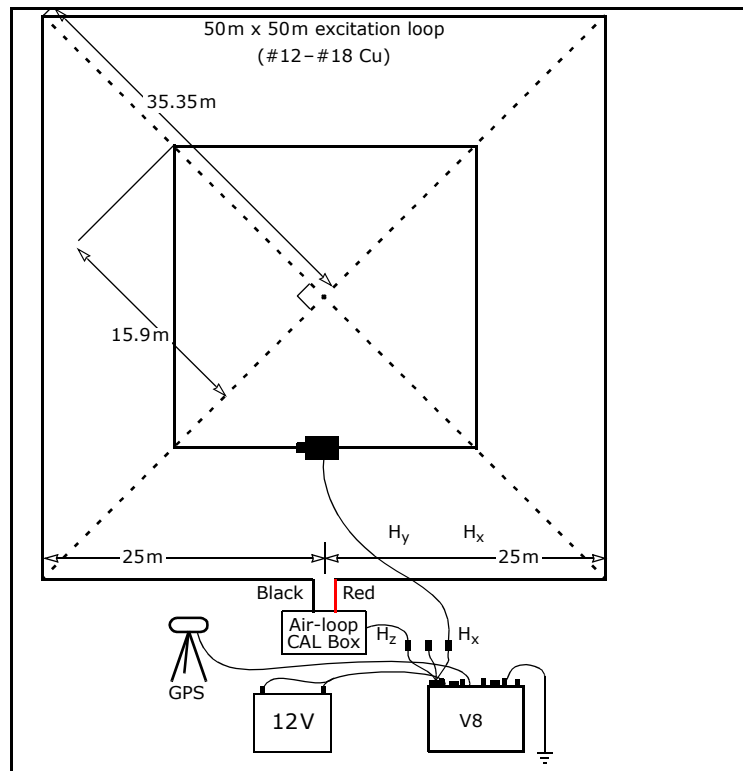

Fig. 1-2: Air-loop sensor calibration.
Calibration of a LoTEM loop uses an excitation loop as the signal source, similar to calibrating an MT air loop. (See Fig. 1-2 on page 2.)
1. Review Figure 1-2.
8. Arrange the 1m excess cable at each end of the loop in parallel, at right angles to the loop side, as shown in Figure 1-2.